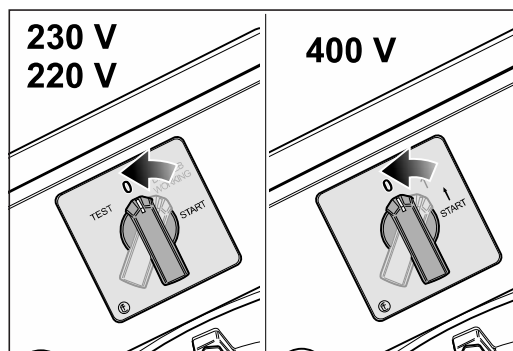

Fig. 26 To switch off the machine turn the switch button to position -0-.
- 2 Turn the switch button to position -0- (fig. 26).